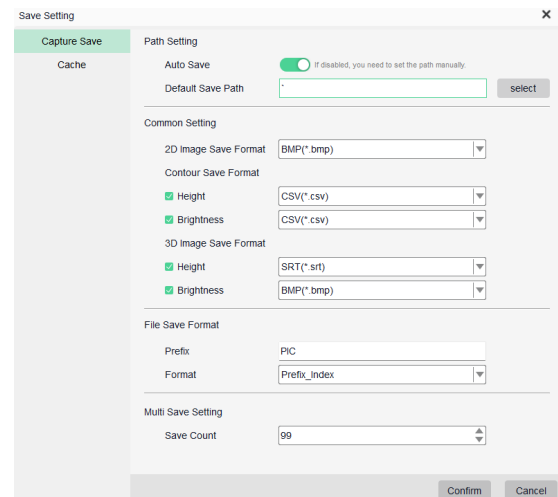

Figure 2.3.13 Save Image Settings
- Image Saving Settings: Click Menu > Image Saving Settings. Before capturing images, you can enable the default image save switch and configure the image type and format to be saved, as shown in Figure 2.3.13.